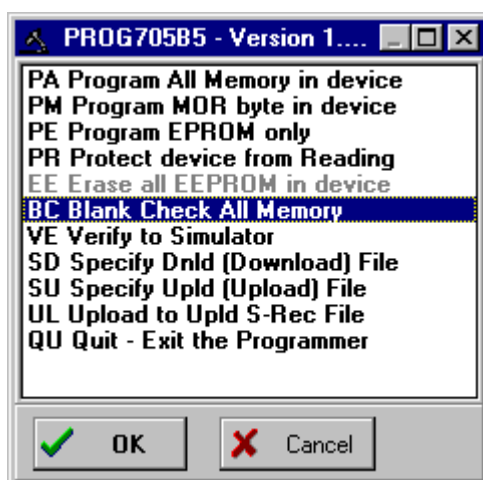

Figure 6-21. PROG05B Programmer Pick Window
- **Pick Window:** The Pick Window (Figure 6-21) displays all programming actions and functions for you to select.